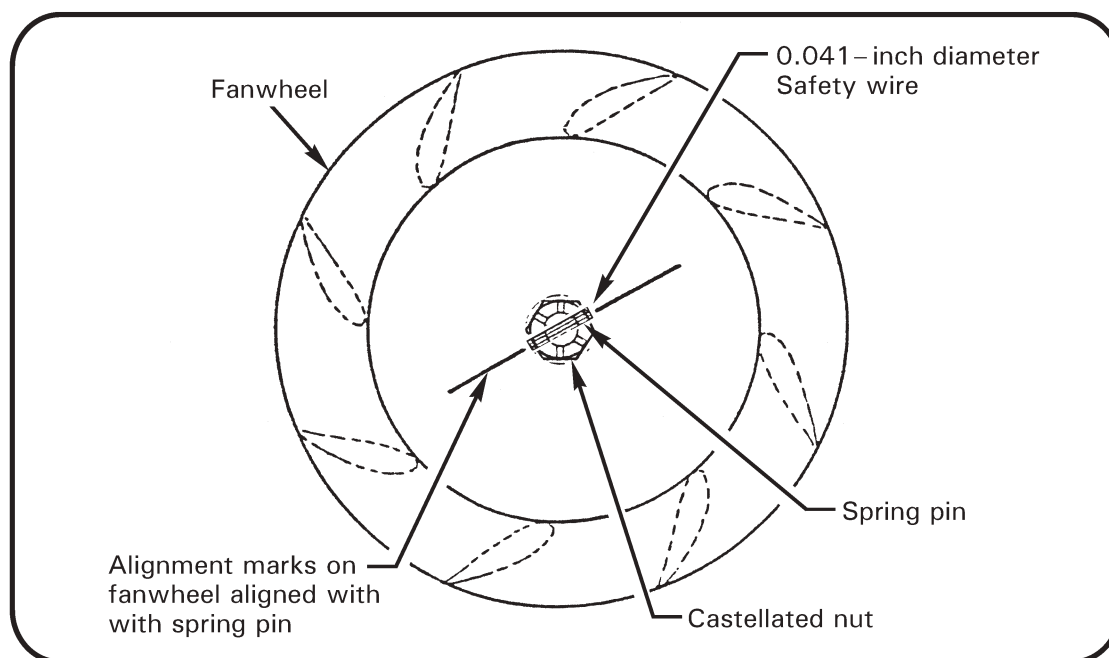

FIGURE 2-10 FANWHEEL ALIGNMENT MARKS
**Fanwheel Assembly:** Clean and inspect fanwheel assembly for cracks and corrosion. Check leading edge of vanes for damage. Verify spring pin and fanwheel alignment marks are aligned (see Figure 2-10); remove fanwheel and inspect mating surfaces for damage if misalignment is evident.